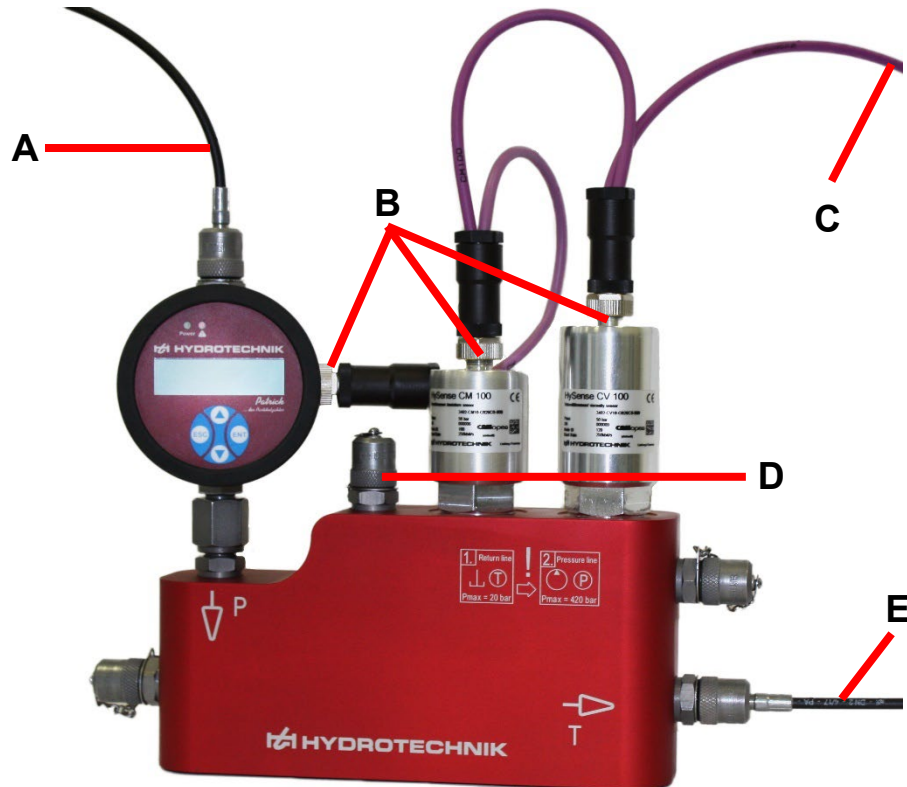

Figure 3: Connections to the CX 197
Figure 3 depicts the connected CX 197. The next section describes the start-up in more detail.
- First connect the tank line to the CX 197 with a simple hose line (point **E**, Figure 3)
- For the pressure connection, use the hose line with the check valve on one side. First connect the simple side (without check valve) to the CX 197 on the input side (point **A**, Figure 3)
The CX 197 does not have its own pump, which is why it is installed in the pressure line. The symbols P and T with an arrow are engraved on the front side of the CX 197. The arrows on the CX 197 indicate the flow direction of the medium. The P symbol stands for pressure and the T for the tank side (Figure 3 or Figure 4). The warning on the front of the CX 197 (Figure 4) symbolizes the correct connection sequence with the maximum pressures that may not be exceeded.